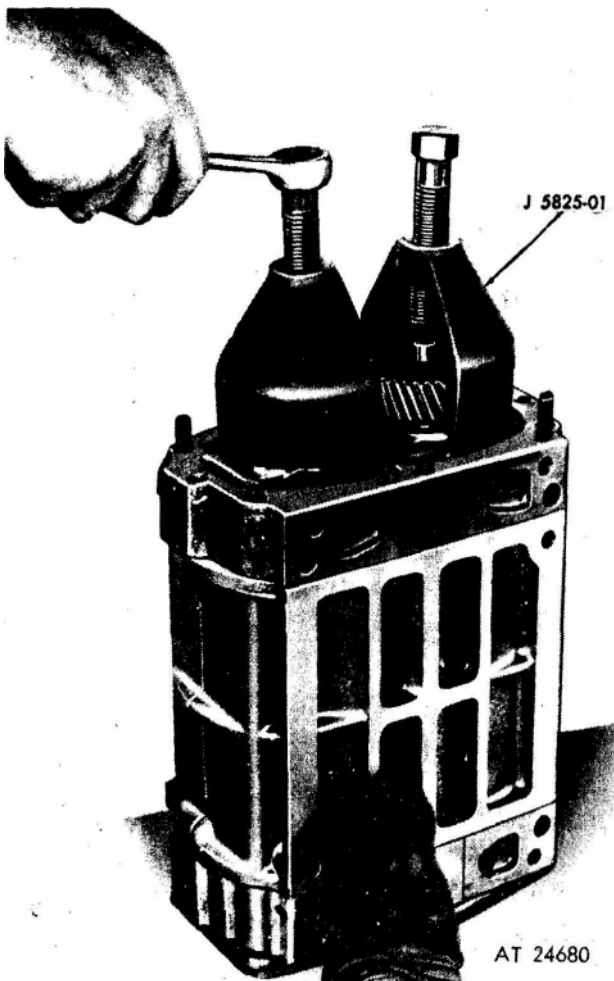

Figure 3. Removing blower rotor gears.
1. Remove the six bolts (30), special washers (31) and reinforcement plates (34) securing the blower assembly to the engine end plate and the flywheel housing. Note the location of the two shorter bolts. Then, lift the blower front end plate cover (26) and gasket (28) away from the blower.
2. Remove the four blower-to-block bolts (62) and special washers (63) and lift the blower away from the engine.
3. Wedge a clean cloth between the blower rotors (6) to prevent their turning (fig. 3). Then, remove the blower gear retaining bolts (44) and rotor gear washers (48).
4. For identification, mark the R.H. helix gear (41). Then remove the blower rotor gears (41 and 42) with pullers J 5825-01 as follows (fig. 3):